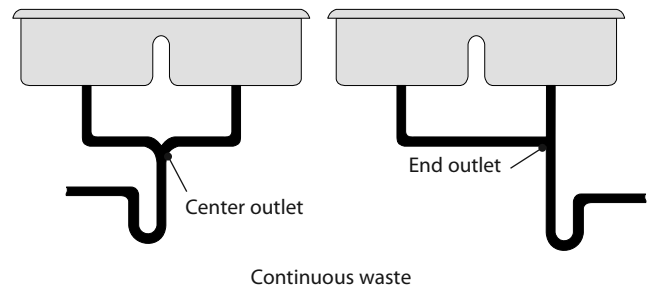

Figure 4-6
- Two or three compartment sinks or laundry tubs of equal depth may connect to a single trap with a continuous waste. See Figure 4-6.